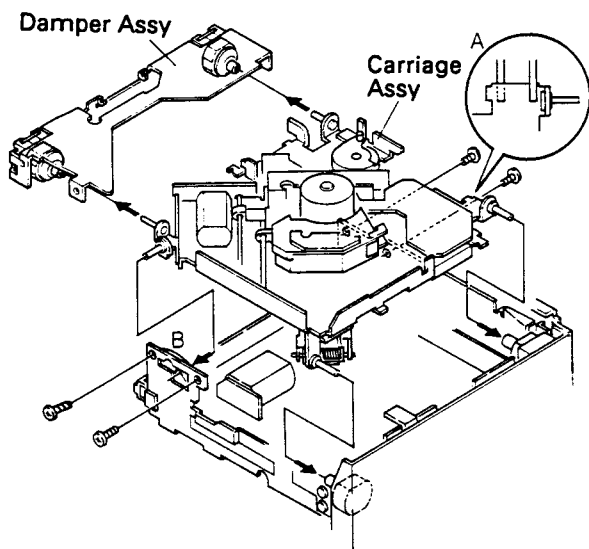

Fig. 17
1. Make the carriage assy pass the dampers in two places. As shown in the section A in the figure, make the carriage assy pass between two shafts. As shown in the section B in the figure, make the carriage assy pass under the arm. (Fig. 17)
2. Put the two dampers of the damper assy, through the carriage assy. (Fig. 17)
3. Install the damper assy with four screws. (Fig. 17)